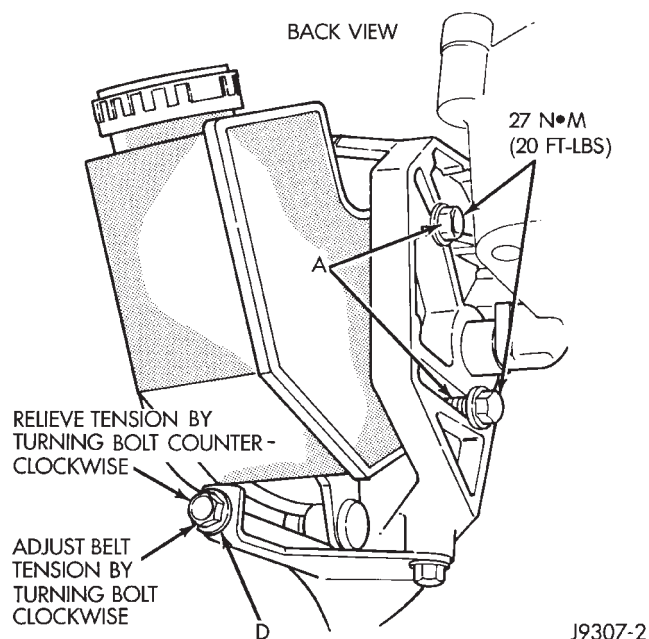

Fig. 4 P.S. Pump Rear Mounting Bolts—4.0L Engine
(a) Loosen two rear power steering pump mounting bolts A (Fig. 4).
(c) Loosen pump adjusting bolt D (Fig. 4) until belt can be removed.
(7) Remove two bolts A (Fig. 4).
(10) Install two adjustment bolts A (Fig. 4) finger tight.
(11) Install idler pulley.
- (12) Position drive belt to pulleys.
- (13) Tighten belt adjustment bolt D (Fig. 4) to the proper tension. Refer to the Specifications section at the end of this group for belt tension.
- (14) Tighten bolts A (Fig. 4) to 27 N•m (20 ft. lbs.) torque.